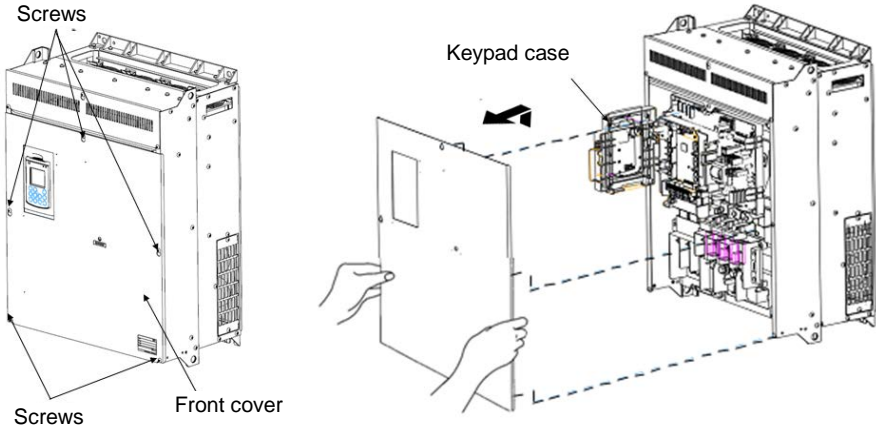

Figure 2.3 Removing the Front Cover and the Wiring Plate (FRN110AR1S-4□)
(2) 110 to 710 kW
- ① Loosen the screws on the front cover, hold the right and left ends of the front cover, and slide it up to remove it.
- ② After making the necessary wiring connections, align the top of the front cover with the holes on the unit and reattach the cover by reversing the process illustrated in Figure 2.3.